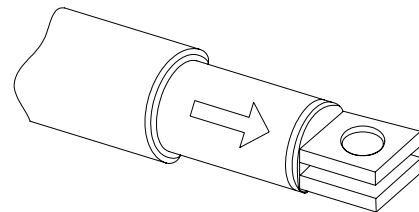

Figure 8
5. **Close the gate and keeping the actuator level**, extend the rod to the dimension **L** shown in 1.2. Be sure to extend the rod by pulling it straight out from the barrel (fig. 8). **Do Not Rotate the Rod.**